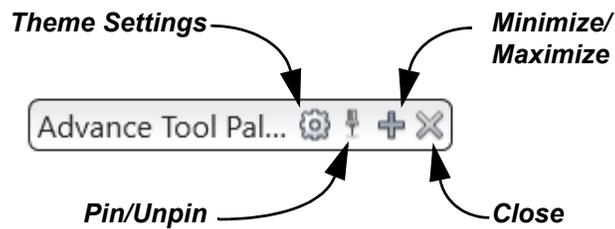

Figure 1-8
- The Tool Palette can float or be pinned into place. You can also minimize it (as shown in Figure 1-8), hide it, and modify the Theme Settings.